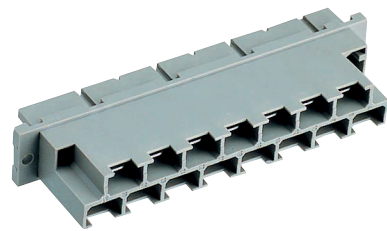

Fig. 44
- Mating H15 connectors with screw, solder, faston, or press-fit terminals, code key system and coding wedges HZZ00202-G; see fig. 44.